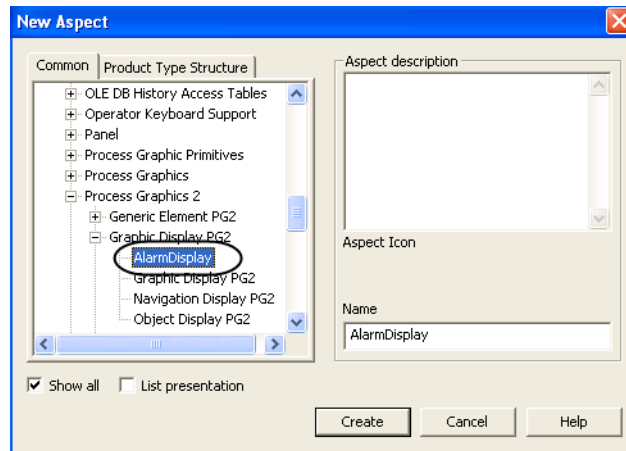

Figure 260. New Aspect
7. Right-click on **Alarm Display**, and select **New Aspect** from the context menu. The **New Aspect** dialog appears as shown in Figure 260.
8. In the aspect list, select **Alarm Display** from **Process Graphics 2 > Graphic Display PG2**. Enter a name for the aspect and click **Create**. Refer Figure 260.